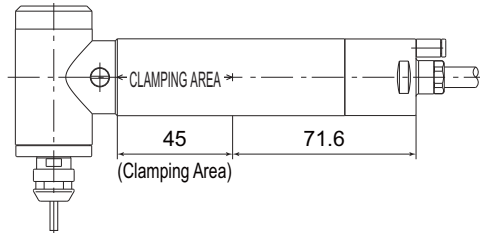

Fig. 13
① When mounting a Brushless Motor Spindle, refer to the Clamping Area etched on the Brushless Motor Spindle (Fig. 13).